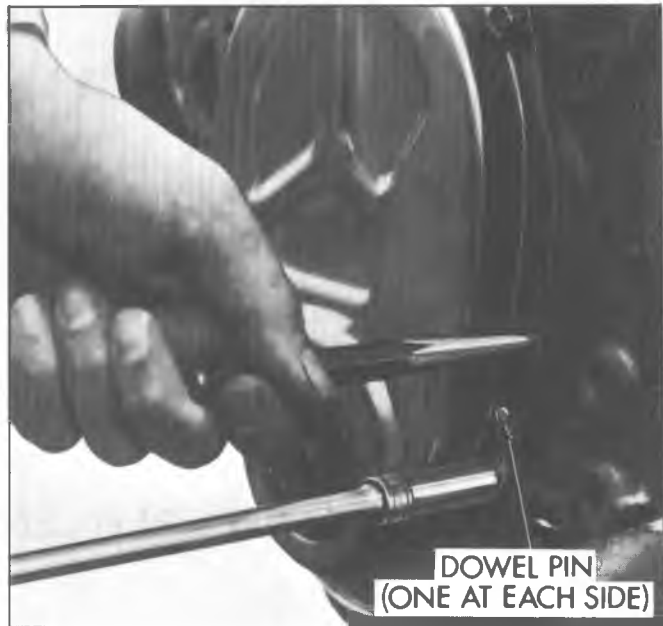

Fig. 3R—Aligning Cover to Dowel Pins
6. Tighten screws alternately and evenly while using drift or other suitable tool to align dowel pins in block to corresponding holes in cover (fig. 3R).